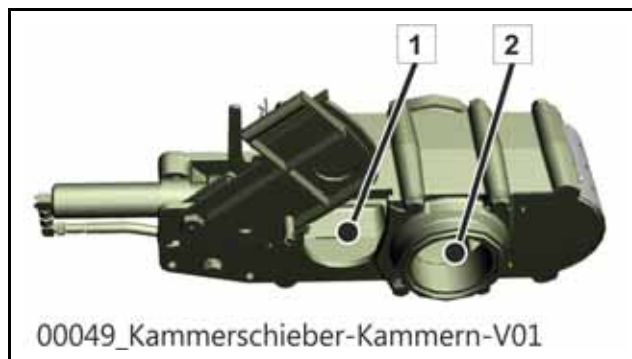

Fig. 471
- Clean the chambers (1+2) (Fig. 471) and the exterior of the chamber valve with water.